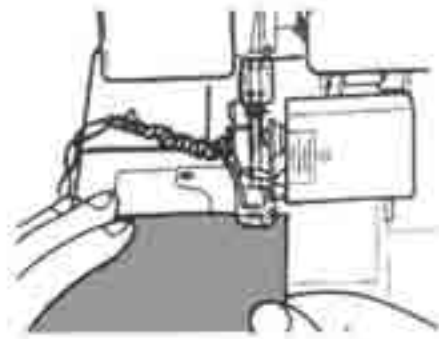

Fig. 51
- Place the fabric from the front under the sewing foot **21** and sew a test seam (Fig. 51). Under no circumstances should you pull on the textile, otherwise the needle will be bent or could even break off.